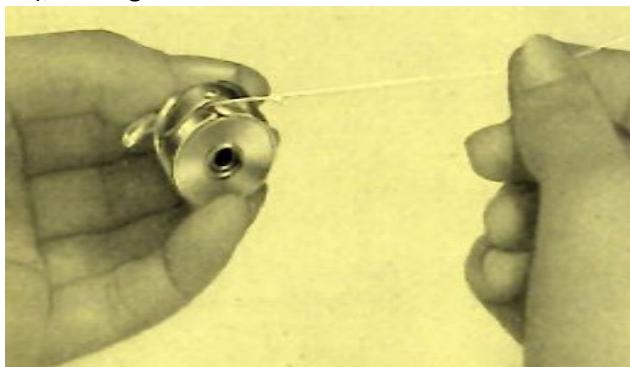
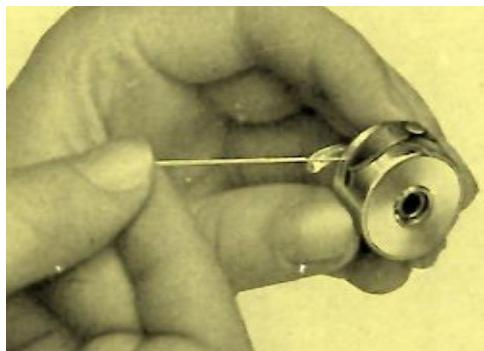

Figure 17
Figure 18
- c) Insert bobbin into bobbin case, preventing bobbin from turning by holding latch lifted with thumb of left hand and with right hand pull thread into the slot of the bobbin case, as shown in figure 17, then draw it under the tension spring and up to the end of the tension spring (figure 18), leaving about 4" of loose thread.